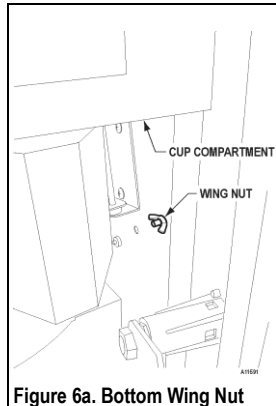
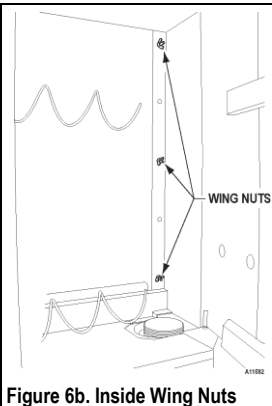

Figure 6a. Bottom Wing Nut
Figure 6b. Inside Wing Nuts
1. Remove and save the wing nut located on the right side below the cup compartment (as viewed from behind the door). See **Figure 6a**.
2. Open the cup compartment door. Remove and save the 3 wing nuts located on the right side of the cup compartment. See **Figure 6b**.
9. Reinstall and tighten the wing nuts saved from steps 1 and 2. See **Figure 6a** and **Figure 6b**.